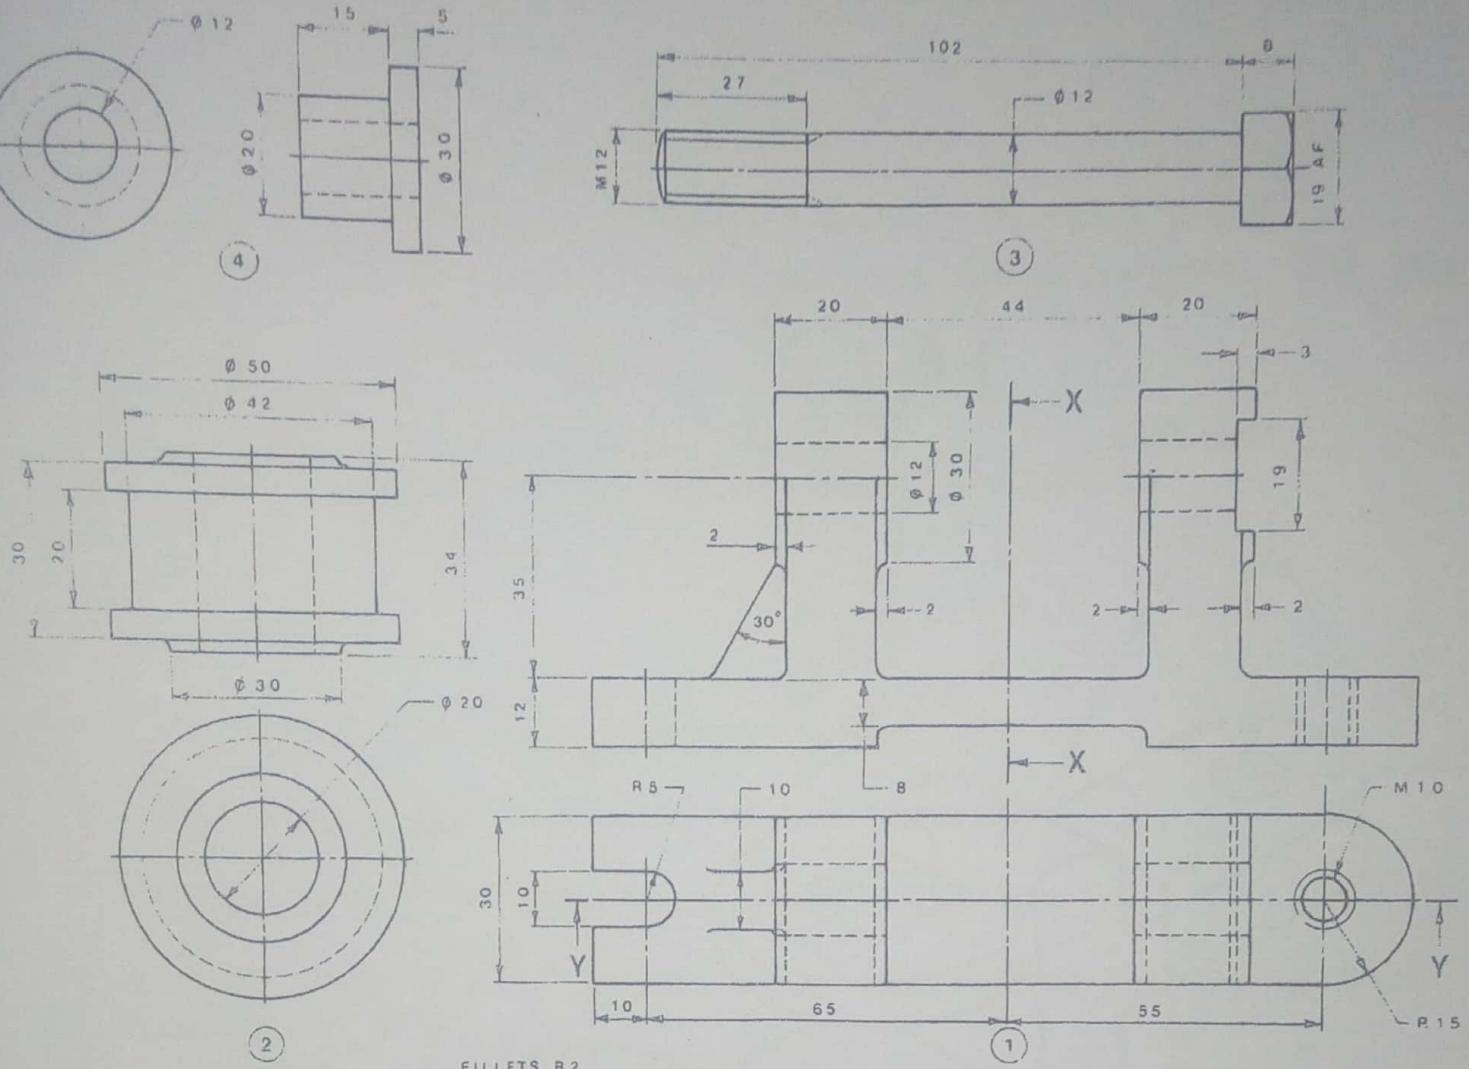

Figure 23
4. Figure 23 shows the details for the BELT PULLEY unit (1) consisting of a belt pulley (2), the bolt (3) and the bush (4). Draw full size with all parts assembled, including a suitable nut, the following views: